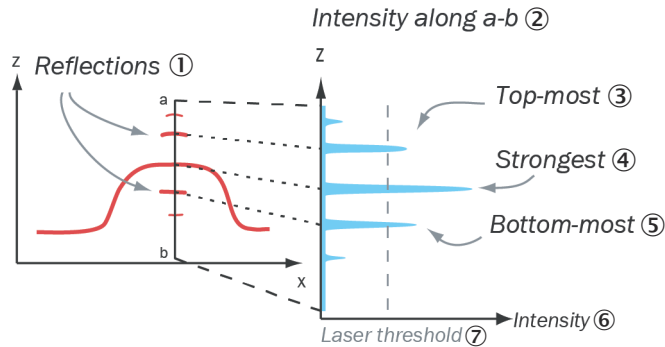

Figure 31: Laser line acquisition criteria.
- **Top Most** and **Bottom Most** locate the highest or lowest point with an intensity higher than the value set by the **Laser threshold** parameter. See figure 31.